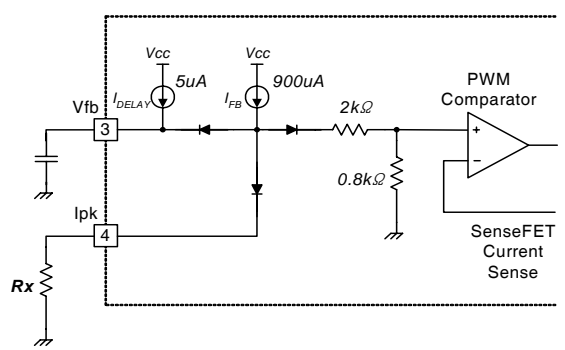

Figure 10. Peak Current Limit Adjustment
8. Adjusting Peak Current Limit: As shown in Figure 10, a combined 2.8kΩ internal resistance is connected to the non-inverting lead on the PWM comparator. An external resistance of Rx on the current limit pin forms a parallel resistance with the 2.8kΩ when the internal diodes are biased by the main current source of 900μA.